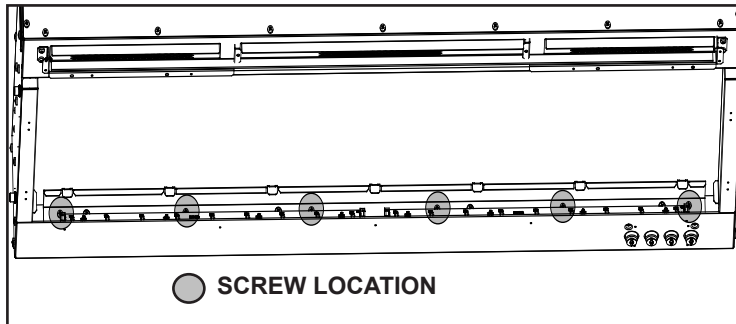

Figure 11. Fuelbed LED Light Board Screw Location
2. Remove Phillips screws that attach the Fuelbed LED Light Board to the chassis. See Figure 11.